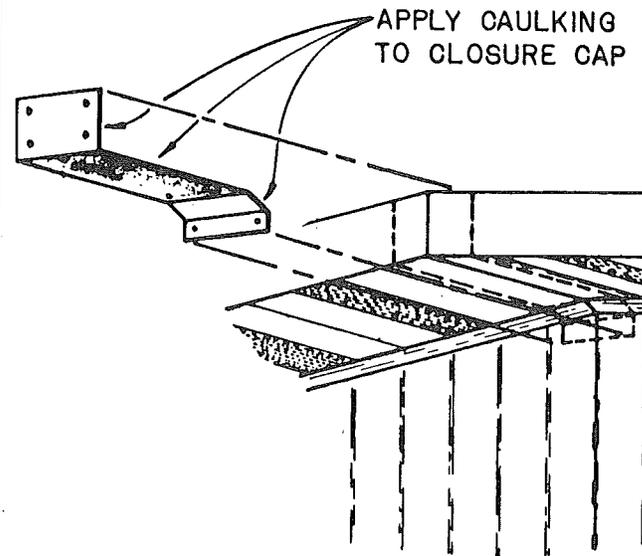

Fig. 19
10. Install closure cap at eave joint (See Fig. 19).